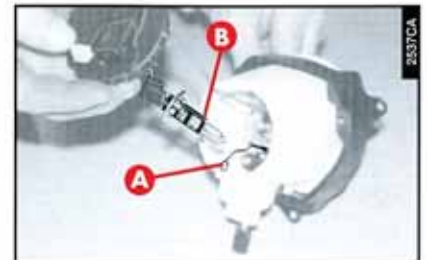

fig. 19
- Release the bulb holder catch (A-fig. 19).
- Withdraw the supply cable terminal and remove the bulb (B-fig. 19).